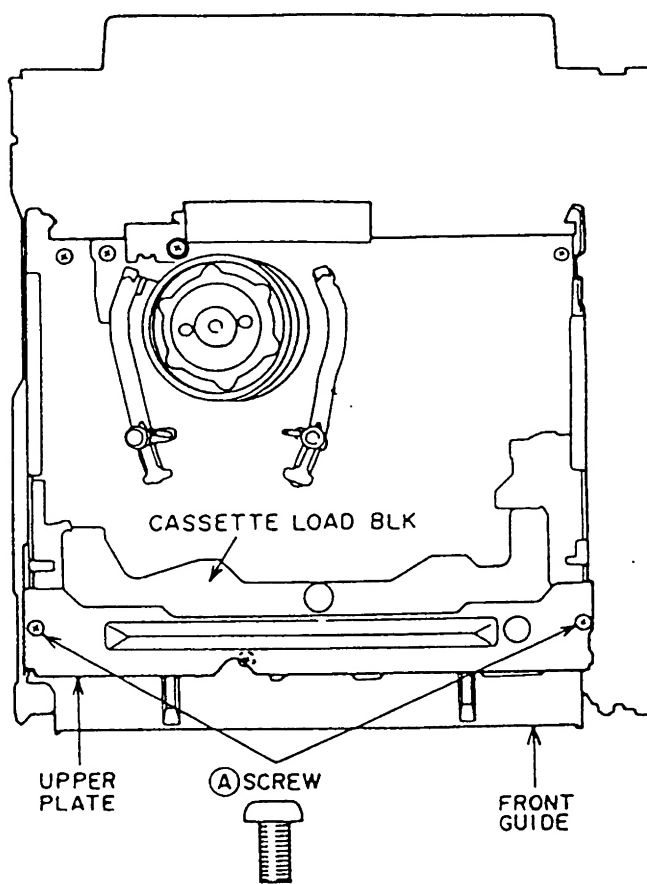

Fig. 3-1
- 1) Remove the two (A) screws on the UPPER PLATE as shown in Fig. 3-1 then remove the UPPER PLATE.